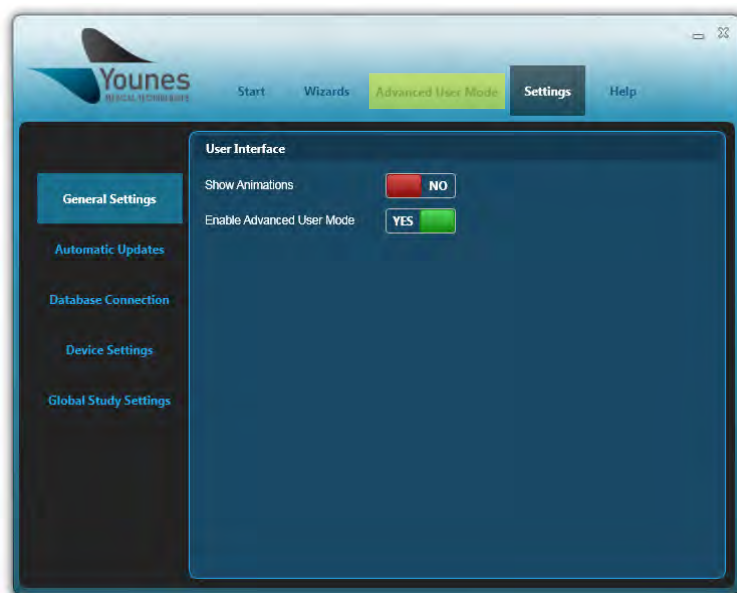

Figure 86 – Windows PC Prodigy Application Screen With “Advanced User Mode” Button Highlighted (General Settings)
3. Upon clicking “No,” the button will change to “Yes,” as shown in Figure 86. Click the “Advanced User Mode” button highlighted in Figure 86 to proceed to the “Advanced User” mode tools.